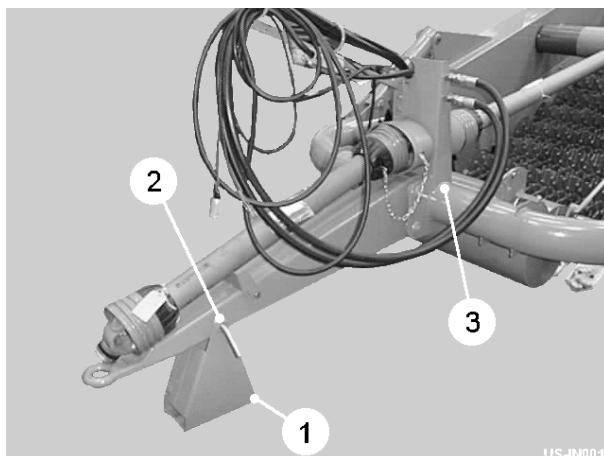
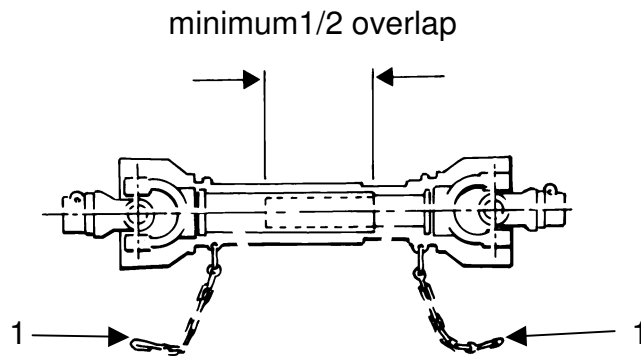

Fig 1
Fig 3
The jack stand (item 1, fig 1) is provided so that the machine is held at a suitable height for safe coupling to the tractor.
When the machine has been securely attached to the tractor the jack stand should be removed and stowed in the cradle (item 3, fig 1).
Fit the two halves of the PTO shaft onto their respective drive shafts on the machine and tractor. Check the shaft length by turning the tractor fully in both directions with the machine in its working position while attached to the tractor's pick-up hitch. Ensure the sliding tubes, when fully extended, have an overlap at least half the closed length (see figure 3). Ensure that the ends of the sliding tubes when at the shortest point are not in contact with other parts of the PTO shaft. If necessary, shorten both tubes and guards equally to achieve end clearance at the minimum length position.
Ensure that the safety chains (item 1, fig 3) used to prevent the guards from turning, are fixed to the tractor and implement in such a way that they will not be stretched when the drive shaft is at maximum articulation. When disconnected from the tractor, position the PTO shaft on the drawbar PTO rest as shown in figure 1.